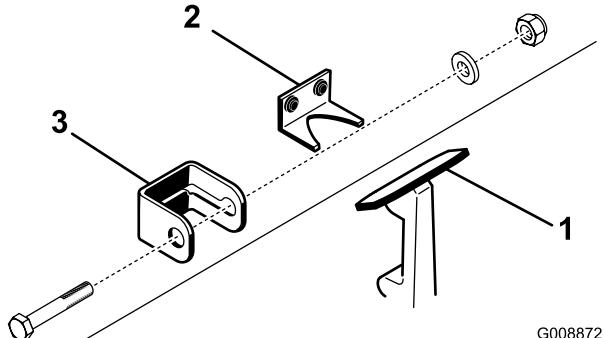

Figure 7
1. Unhook the hood latch from the hood latch bracket (Figure 7).
2. Slide the hood lock bracket onto the latch (Figure 7).
3. Hook the latch onto the hood lock bracket (Figure 7).
4. Insert a bolt (1/4 x 1-1/2 inches) through the hood lock bracket and secure it with a flat washer and locknut (Figure 7).